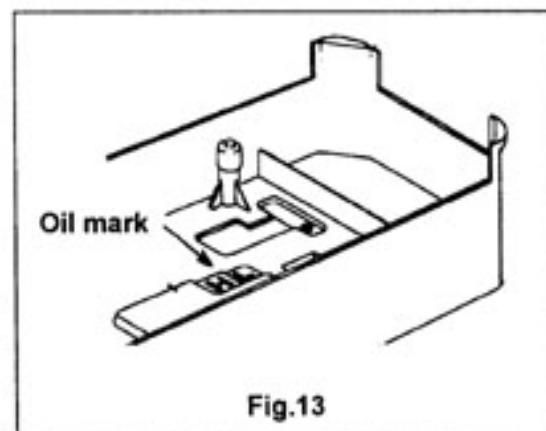
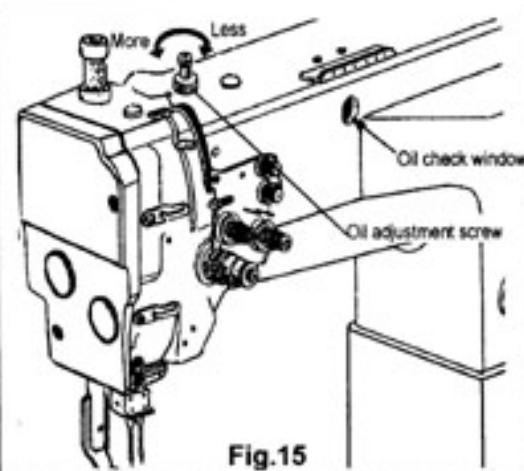

Fig.13
Fig.15
14. Lubrication (Fig.13, Fig.14, Fig.15):
1) Before starting operation, be sure to pour oil up to the position H of oil tank. If the oil below position L, replenish the oil supply up to position H. (Fig.13)
3) While operating the machine, check the condition of oil lubrication through the oil check window. The oil amount can be adjusted by oil adjustment screw. (Fig.15)